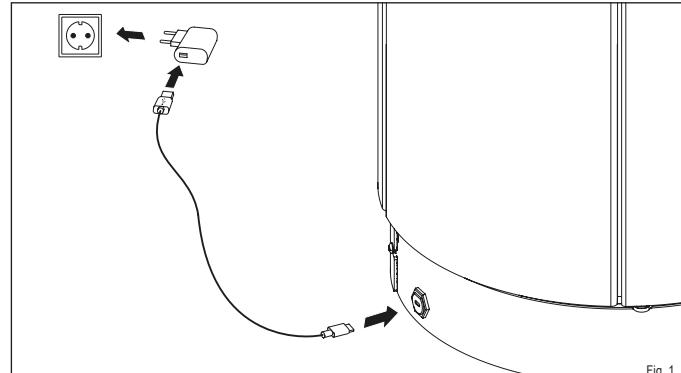

Fig. 1
- Connect the USB-C cable to the socket on the stove and the mains plug (Fig. 1).
- Connect the mains plug to the mains (Fig. 1).